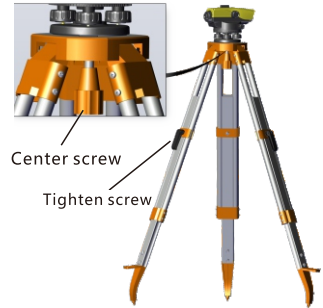

Figure 2
- ① Extend the tripod legs until top holder is at eye level.
- ② Tighten screws and stick tripod legs firmly into the ground.
- ③ Set instrument and tighten the centering screw. (Figure 2)